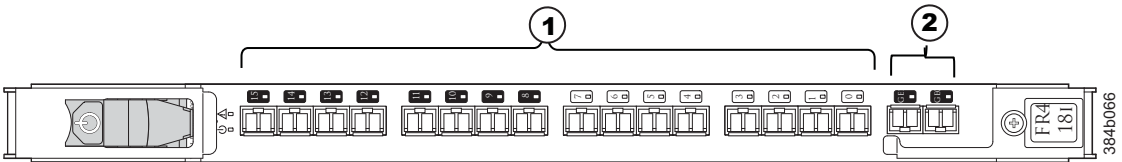

Figure 56. FR4-18i routing blade
- Figure 56 on page 138 shows an FR4-18i routing blade